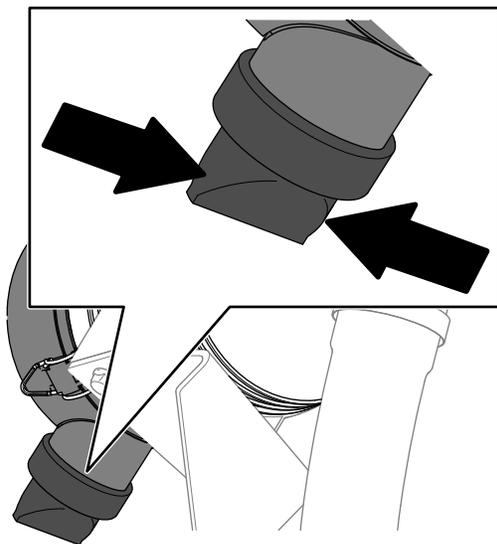

Figure 73
5. Squeeze the dust-ejector valve (Figure 73).